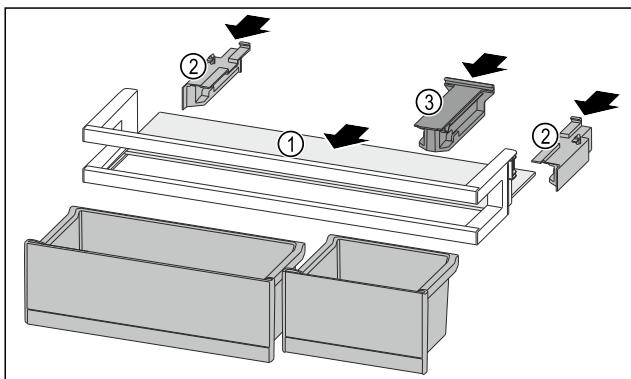

Fig. 113
- ▶ Push the shelf Fig. 113 (1) into the side recesses.
- ▶ Insert the side parts Fig. 113 (2).
- ▶ Insert the holding part Fig. 113 (3).